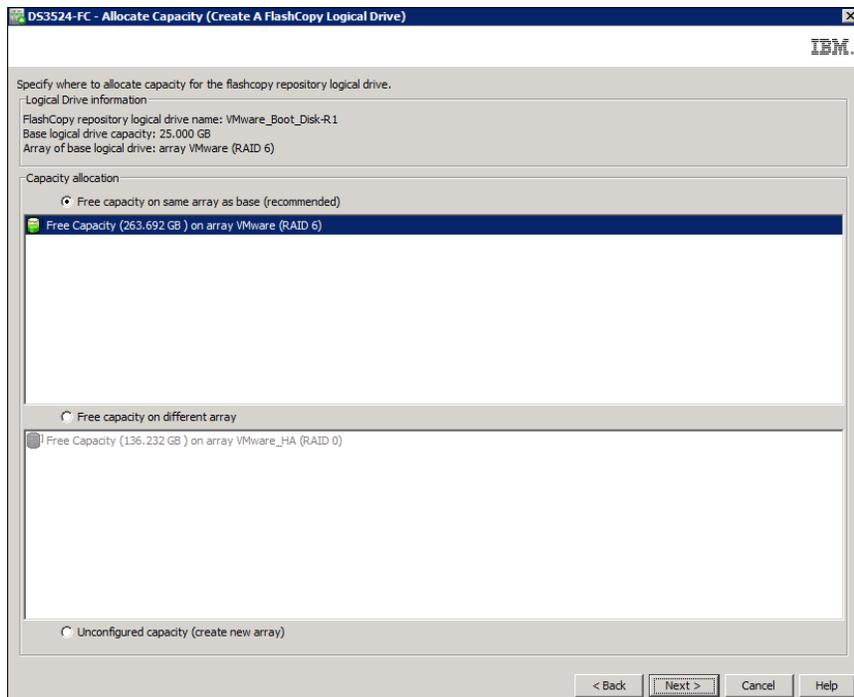

Figure 2-15 Create FlashCopy Logical Drive Wizard: Allocate capacity
- b. The Allocate Capacity window opens, as shown in Figure 2-15.